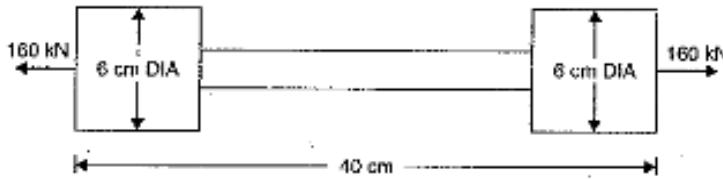

Fig. 1(c)
- 1 a. A rigid bar  $ACDB$  is hinged at  $A$  and supported in a horizontal position by two identical steel wires as shown in Fig. 1(a). A vertical load of 30 kN is applied at  $B$ . Find the tensile forces  $T_1$  and  $T_2$  induced in these wires by the vertical load.
- c. The bar shown in Fig. 1(c) is subjected to a tensile load of 160 kN. If the stress in the middle portion is limited to  $150 \text{ N/mm}^2$ , determine the diameter of the middle portion. Find also the length of the middle portion if the total elongation of the bar is to be 0.2 mm. Young's modulus =  $2.1 \times 10^5 \text{ N/mm}^2$ .